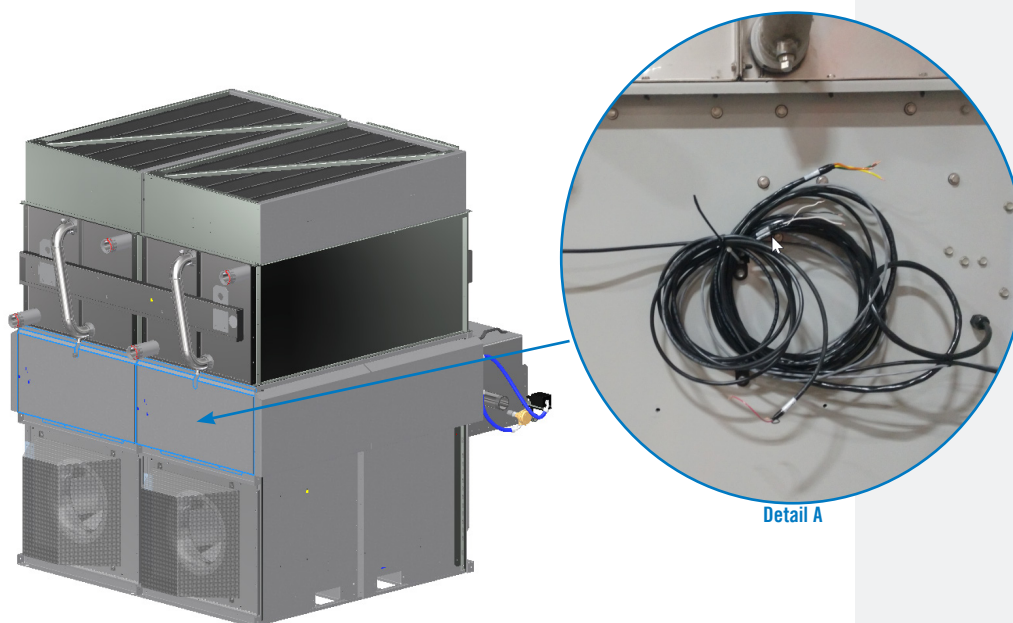
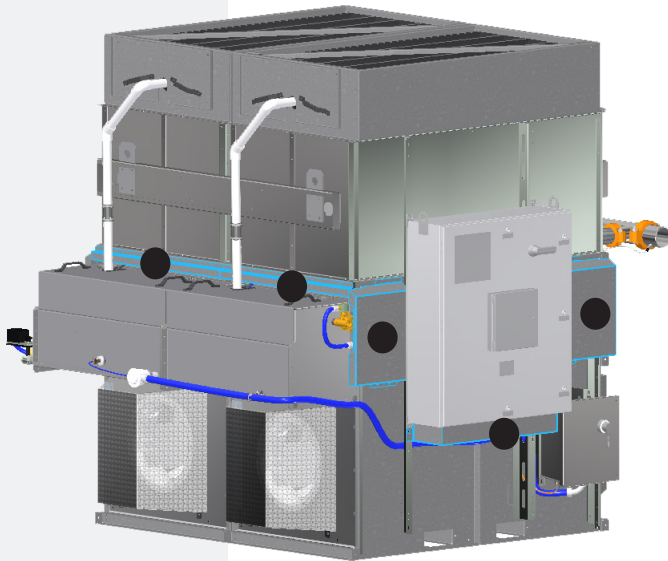
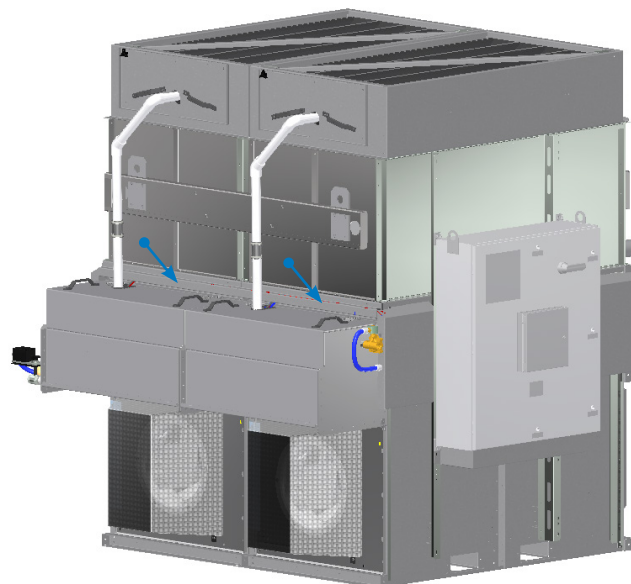

Figure 11. Location of Fan Wiring
Figure 14. Location of Cover Panels Around the iPilot™ Control System Panel (Optional Basin Heater Shown)
Figure 19. Install Wire Cover
1. Remove the back cover panel located on the opposite side of water basin (Face D). Find the fan wire stored under cover panel for each module. See **Figure 11**.
1. Remove the rest of cover panels around control panel and above spray water basin. Keep the hardware for reinstallation of panels. See **Figure 14**.
10. Install the wire cover panel at the top of the spray water basin. See **Figure 19**. Install the cover panel at the back and side. See **Figure 11** and **12** on **pages 13** and **14**. Finally, install the cover panels around iPilot Control System panel, see **Figure 14** on **page 14**.